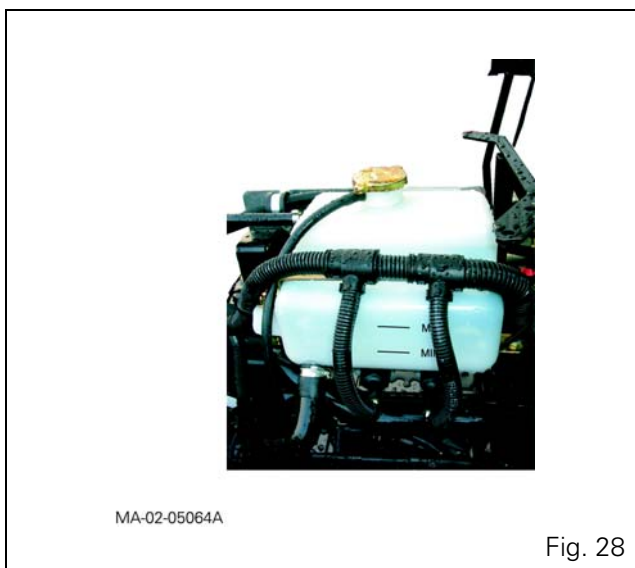

Fig. 28
- of coolant, to the maximum level marked on the radiator and expansion tank (Fig. 28).